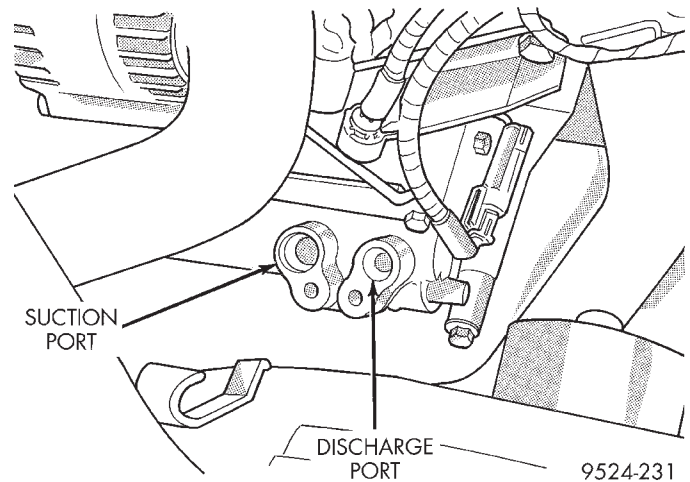
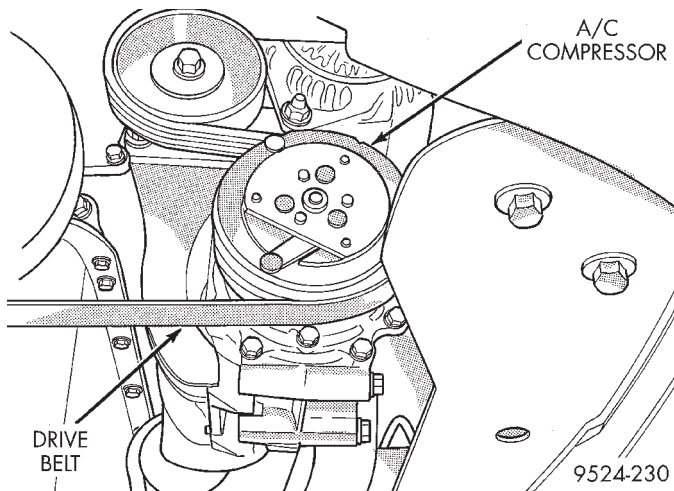

Fig. 16 A/C Lines
Fig. 15 Drive Belt
- (2) Loosen and remove drive belt (Fig. 15). Refer to Group 7, Engine Cooling.
- (3) Disconnect compressor clutch wire lead.
- (4) Recover refrigerant system with R-134a recovery unit.
- (5) Remove refrigerant lines from compressor (Fig. 16).